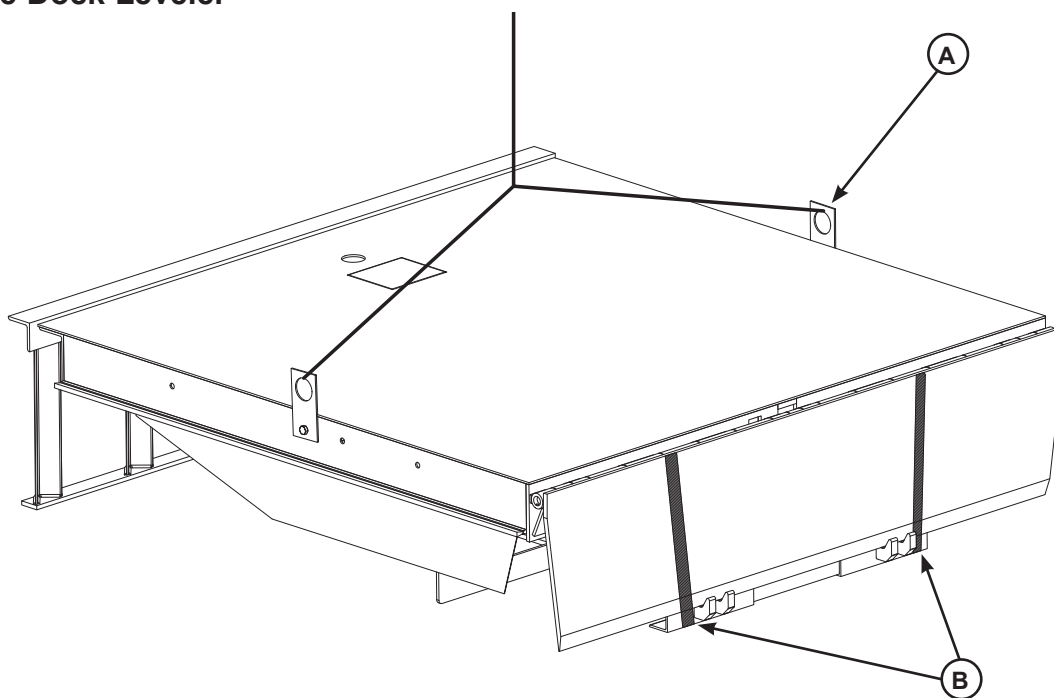

Figure 8
NOVA dock levelers are shipped with lifting brackets (A) fastened to the platform side joists, and shipping bands (B) around the platform lip and leveler frame (see Figure 8).
3. Attach lifting chains to lifting brackets (A) and to a lifting device (i.e., hoist or fork truck) having the appropriate lifting capacity and reach.